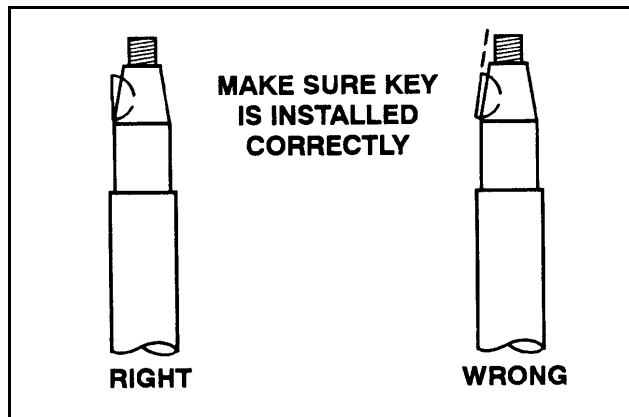

Figure 58
2. Make sure key is installed correctly (see Figure 58.)